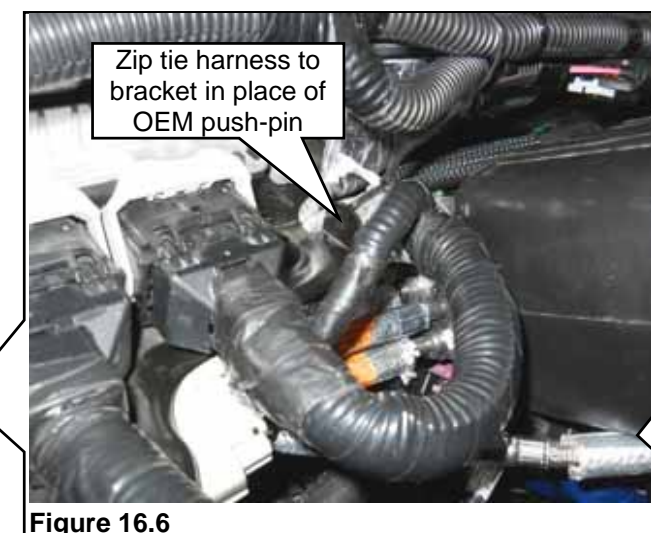

Figure 16.6
15. Use a zip tie to secure the harness of the inner PCM connector. Zip tie the harness to the bracket in place of the OEM push-pin. **Figure 16.6.**